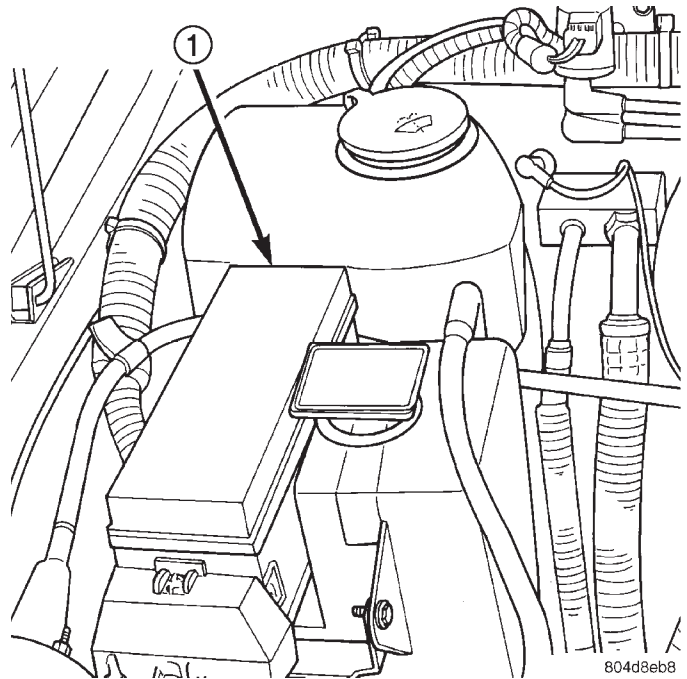

Fig. 4 Power Distribution Center (PDC)
- 1 - (3) 32-WAY CONNECTORS
(2) Inspect battery cable connections. Be sure they are clean and tight.
(3) Inspect fuel pump relay and air conditioning compressor clutch relay (if equipped). Inspect ASD relay connections. Inspect starter motor relay connections. Inspect relays for signs of physical damage and corrosion. The relays are located in Power Distribution Center (PDC) (Fig. 4). Refer to label on PDC cover for relay location.